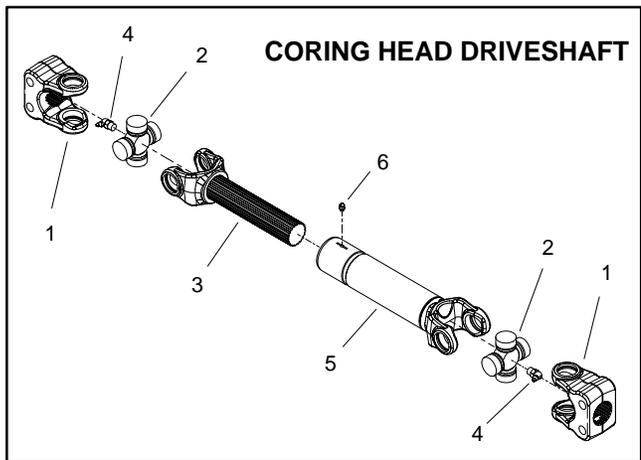

Figure 36
- A. Coring head driveshaft should be installed with slip tube yoke to gearbox (Fig. 36).